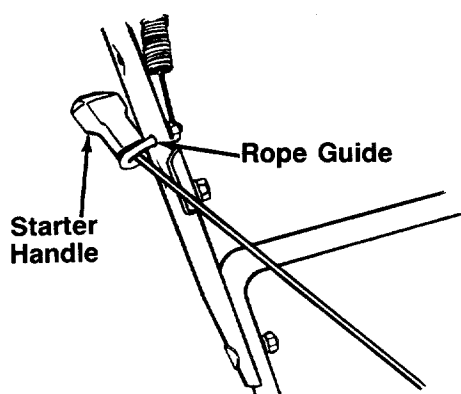

FIGURE 7.
3. Place the rope guide around the starter handle, so the rope guide is positioned as shown (bends downward slightly). See figure 7. Insert the rope guide through the right side of the upper handle, the cable bracket, and secure with hex lock nut.